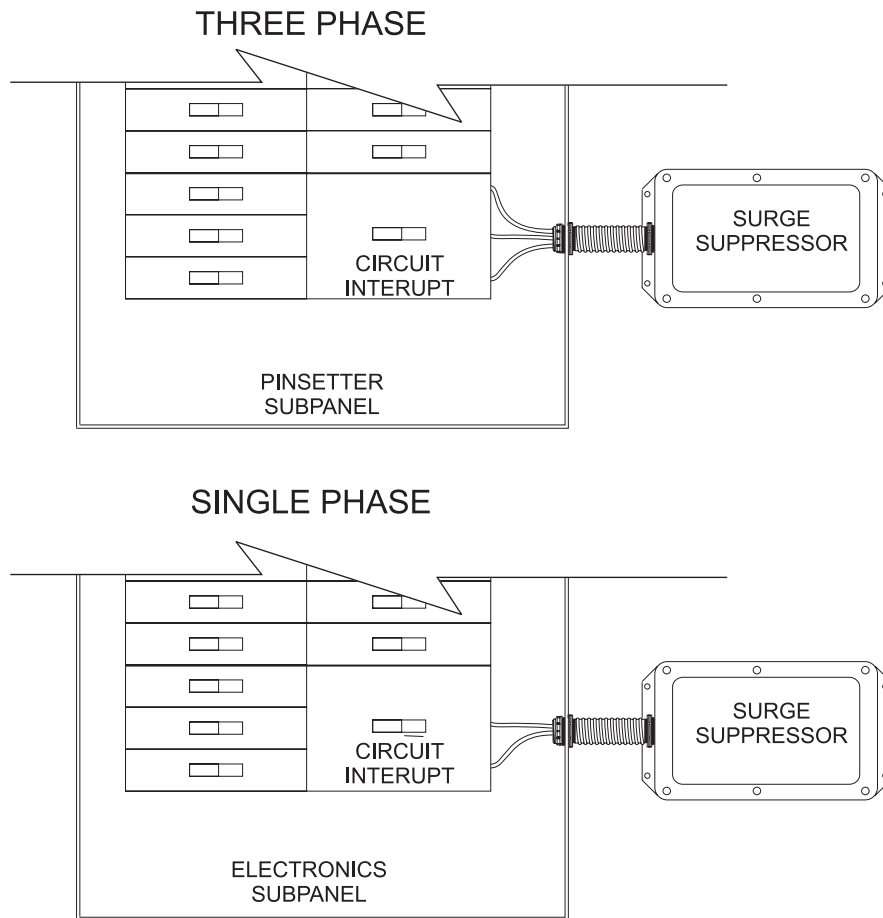

Figure 5
4. Connect the power wires or “hot” wires (see table above) from/to the surge suppressor to the Phase conductors or buses of the electrical systems through any required circuit interrupts (fuses or breakers) described above. Refer to *Figure 5*.